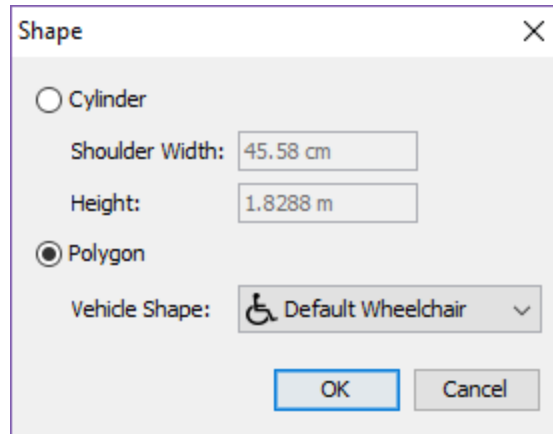

Figure 111. The Shape Dialog where a user may select a vehicle shape for a client
- Choose a **Vehicle Shape** for the client (see Section 5.1.8 and Figure 111) by editing the **Shape** parameter on the occupant properties panel. *All clients must have a vehicle shape* (see Section 5.2). Either choose a default shape or define a custom shape with user-defined positions for assistants.